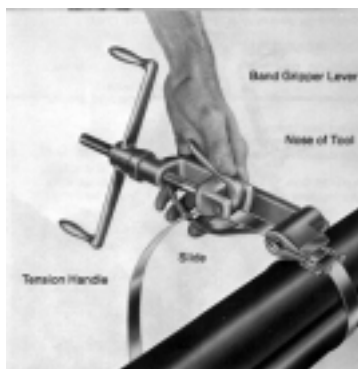

Fig. 3.9. Apply tension
- Place band in open slot of tool nose and in slide (Fig. 3.9.). With thumb on band gripper lever, apply tension by turning handle of tool. After tension is created, it is no longer necessary to hold band gripper lever as it locks itself under tension.